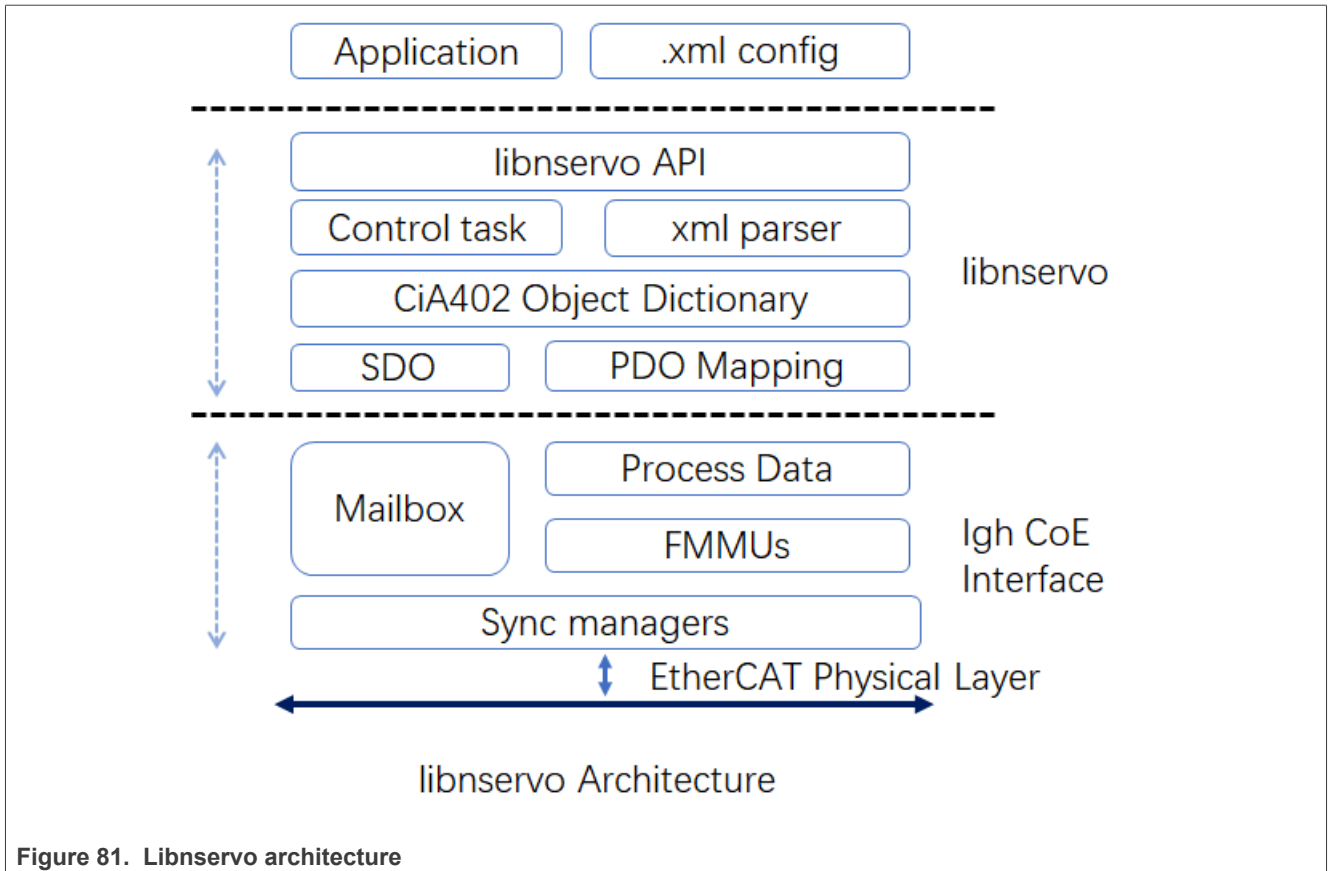

Figure 81. Libnservo architecture
*real-time-edge-servo* runs on top of the *lgh* EtherCAT stack. The *lgh* stack provides CoE communication mechanisms - Mailbox and Process Data. Using these mechanisms, *real-time-edge-servo* can access the CiA Object Dictionary located on CoE servo. The Figure 81 shows the Libservo architecture.